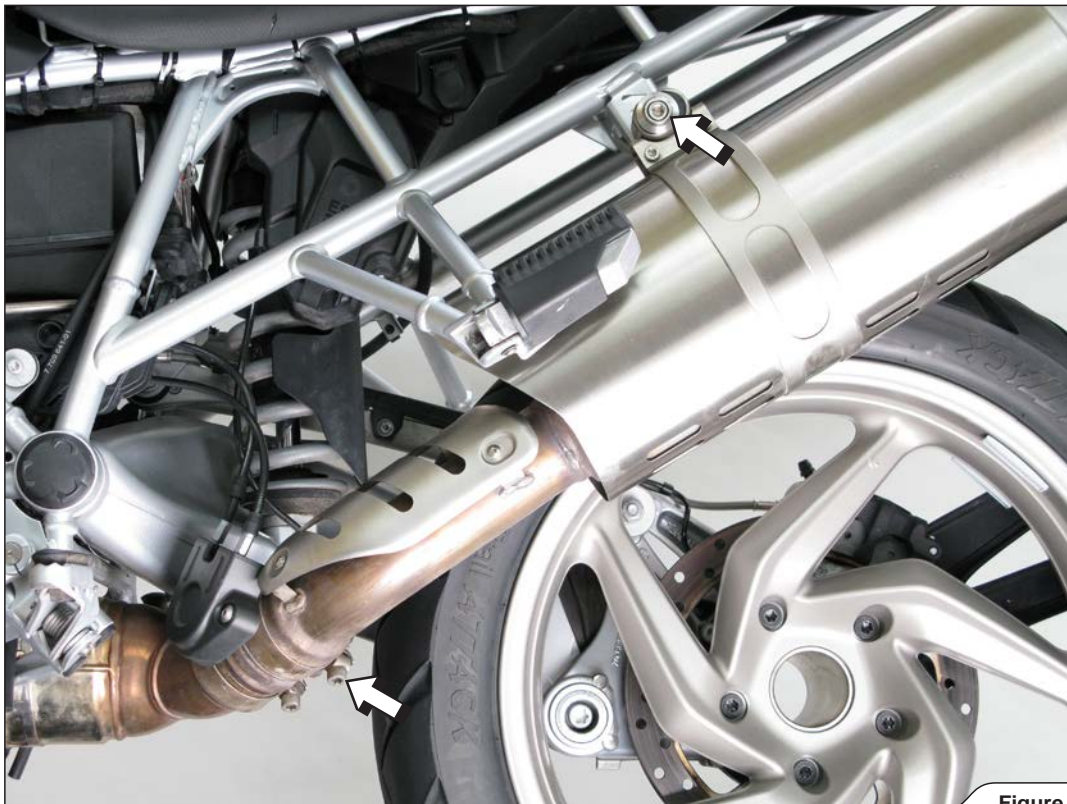

Figure 1
2. Unscrew the marked bolts from the metal clamp at the muffler - collector joint and from muffler bracket (**Figure 1**). Remove the muffler off the motorcycle.